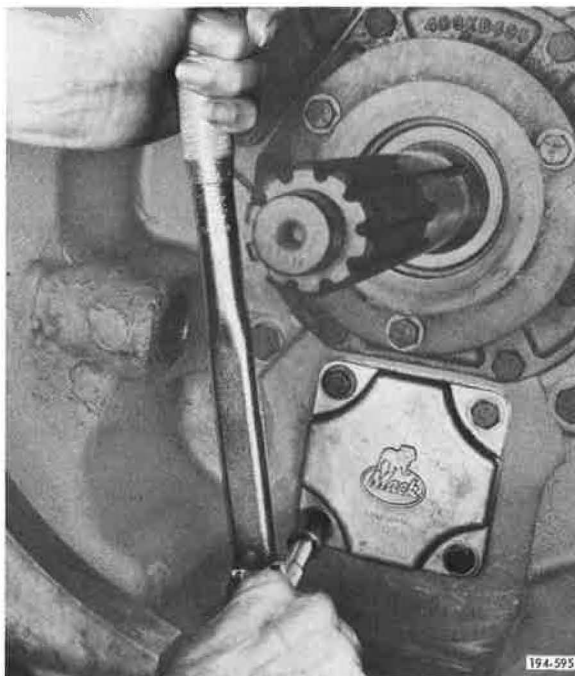

Figure 380. Torquing Capscrews
16. Place covers in position, install capscrews, and tighten to 24 to 30 lb. ft. torque. Refer to Torque and Tolerance Table, Item 5. See Figure 380.